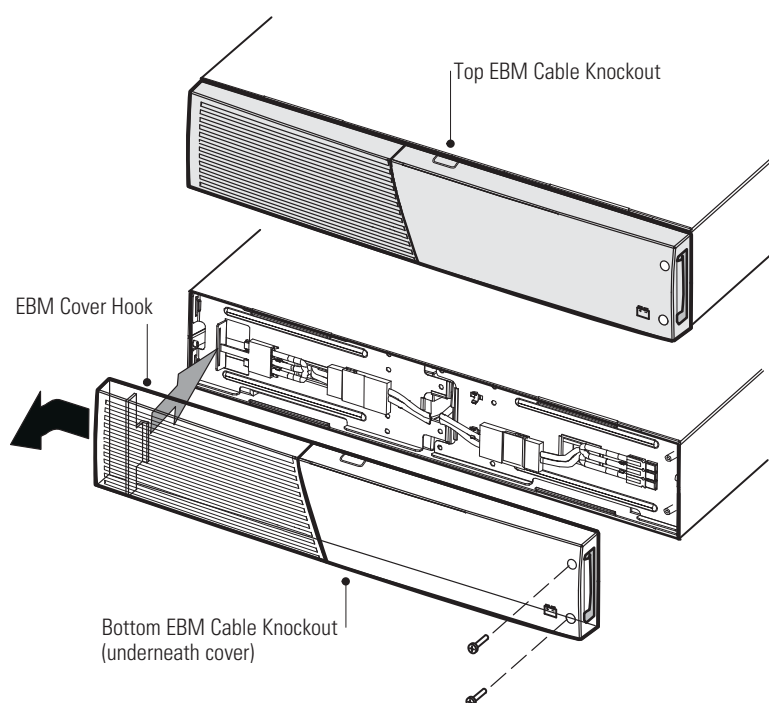

**Figure 11. Removing the EBM Cable Knockout**
1. On the bottom of the UPS right front cover, remove the EBM cable knockout (see Figure 11).